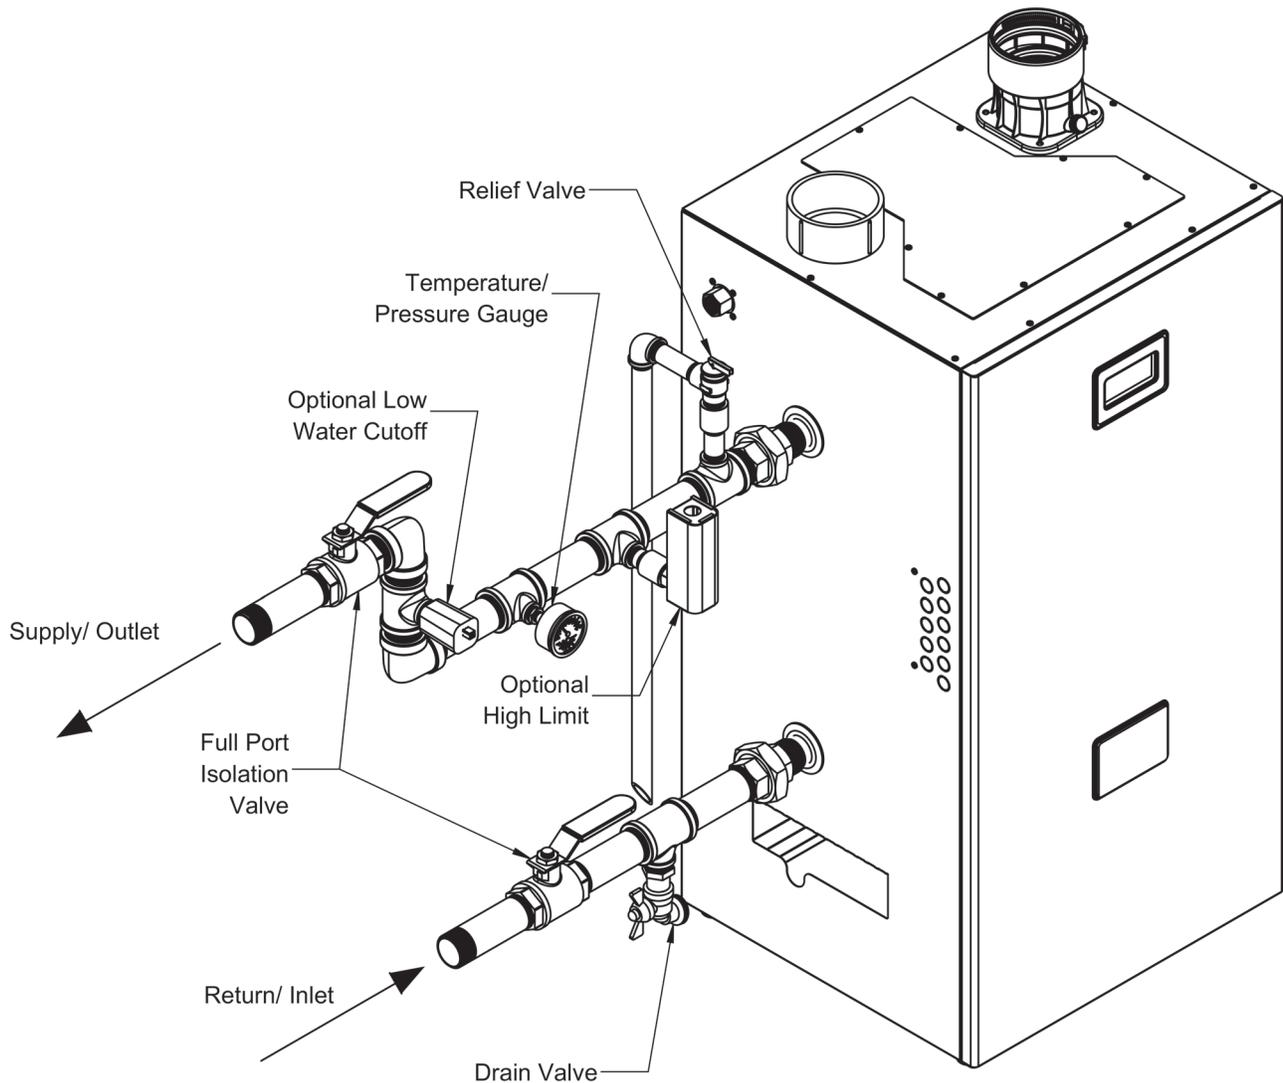

Figure 9.1: Near Boiler Piping
1. Relief Valve (Required) – The relief valve is shipped loose and must be installed in the location shown in Figure 9.1. ASME Section IV currently requires that this relief valve be installed above the heat exchanger as shown. Pipe the outlet of the relief valve to a location where water or steam will not create a hazard or cause property damage if the valve opens. The end of the discharge pipe must terminate in unthreaded pipe. If the relief valve discharge is not piped to a drain, it must terminate at least 6" above the floor. Do not run the discharge piping through an area that is prone to freezing. The termination of the relief valve must be in an area where it is not likely to become plugged by debris.
2. Gauge (Required) - Indicates supply water pressure and temperature. This gauge is shipped loose. Install it as shown in Figure 9.1.
7. Manual Reset High Limit (required by some codes) (P/N 106056-01) - This control is required by ASME CSD-1 and some other codes. Install the high limit in the boiler supply piping near the boiler with no intervening valves as shown in Figure 9.1. Set the manual reset high limit to 200°F. Wire the limit per Figure 10.3 in Section X “Wiring”.
10. Drain Valve (required) – Install the drain valve supplied as shown in Figure 9.1.